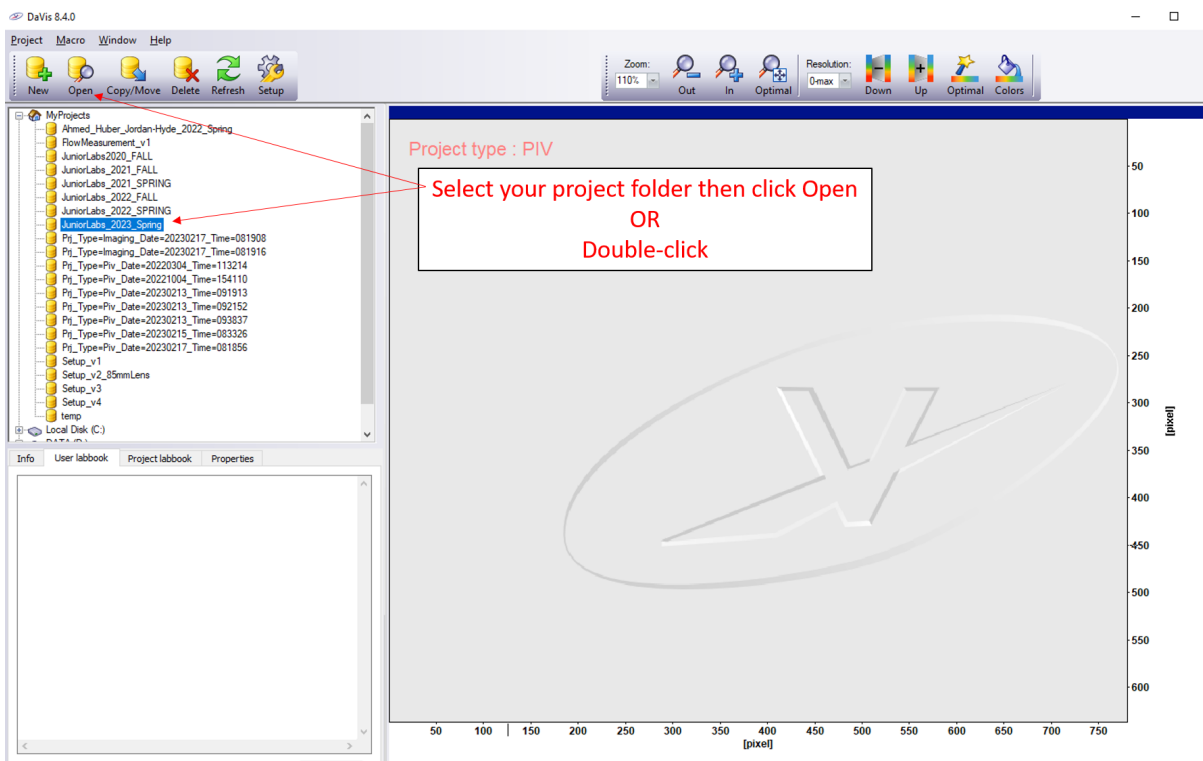

Figure 2: In the "MyProjects" drop-down list select the appropriate project for your semester
- Under "MyProjects" drop-down list select **JuniorLabs_XXXX_YYYY**, where **XXXX** will be the year and **YYYY** the semester you are taking the course, e.g. *JuniorLabs_2023_Spring* as shown in **Figure 2**.